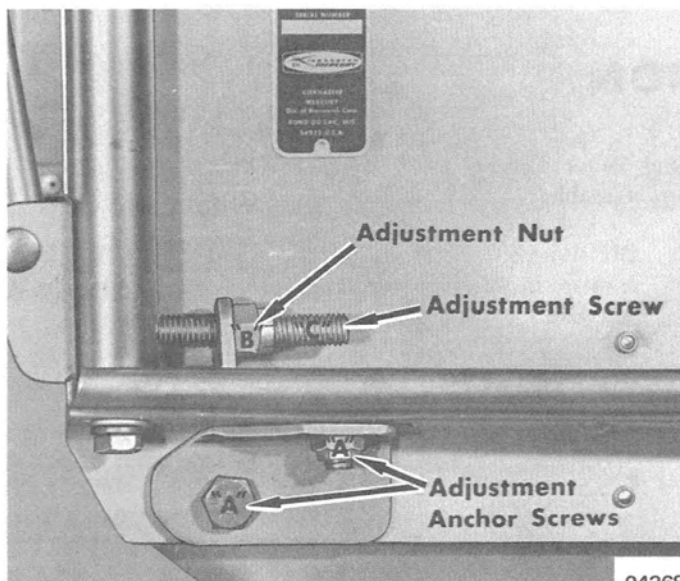

Figure 3. Adjustment Location (220 and 250 Models)
1. Loosen adjustment anchor screws ("A" in Figure 3) and tighten adjusting nuts or screws ("B" or "C" in Figure 3) equally on both sides of vehicle until correct tension is achieved.
*NOTE On 220 and 250 Models with long track adjustment (3" screws), hex head screws (rather than carriage bolt) are used. To adjust track alignment, it is necessary to support rear of vehicle by means other than the rear stand so that a wrench can be placed on adjusting screw ("C" in Figure 3)*